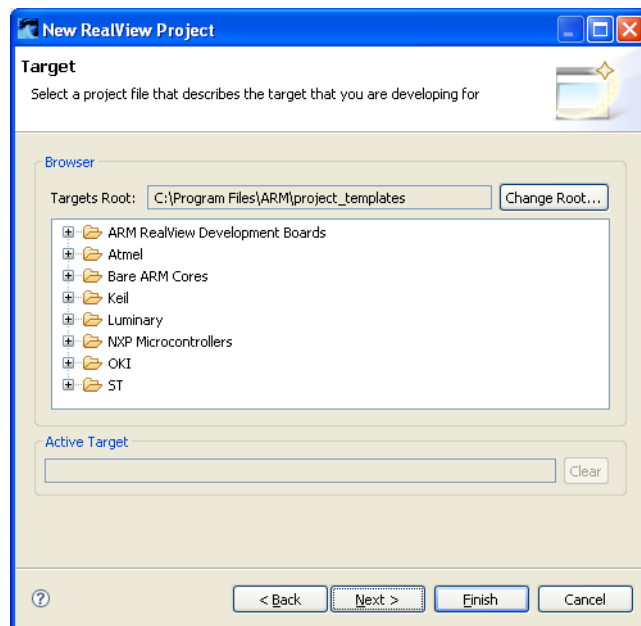

Figure 3-4 Project template selection
4. Figure 3-4 shows the Target dialog box with a list of templates containing default settings for specific targets. Select a template as required. Click on **Next**.